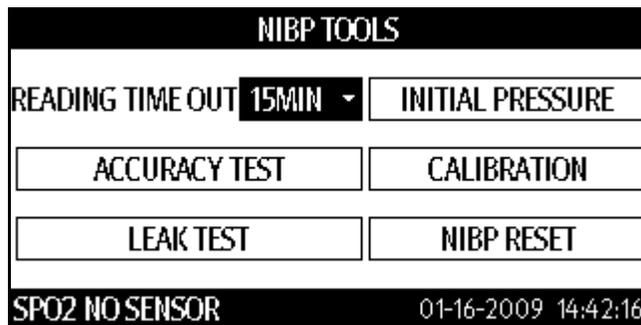

FIGURE 4-6 NIBP TOOLS Dialog
4. Press  (16) or  (19) to highlight **NIBP TOOLS** to display the NIBP TOOLS dialog as shown in FIGURE 4-6.
5. Once **NIBP TOOLS** is highlighted, press  (18) to display the NIBP TOOLS dialog.
NOTE: The **ACCURACY TEST**, **LEAK TEST**, and **CALIBRATION** selections shown the **NIBP TOOLS** dialog (**FIGURE 4-6**) are explained in the **Service Manual**, part number **0070-10-0702**. **Calibration should be carried out by qualified personnel only.**
- 6.** Press  (16) or  (19) to highlight **NIBP RESET** to display the INITIAL PRESSURE dialog as shown in **FIGURE 4-6**.
- 7.** Once **NIBP RESET** is highlighted, press  (18) reset the NIBP. While the NIBP is setting, the prompt message "RESETTING..." displays.